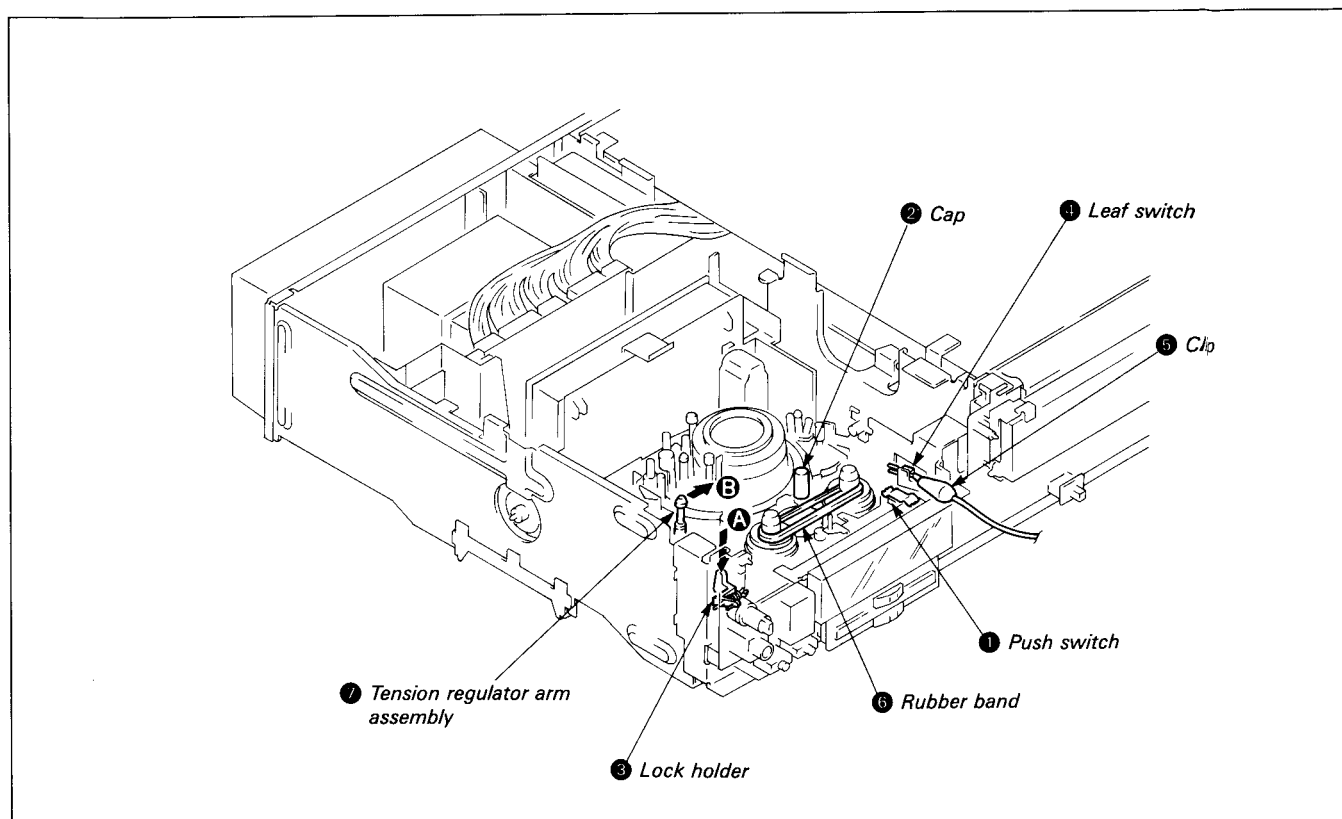

Fig. 7-1.
1. Method to loading (See Fig. 7-1)
2. Putting into Playback State (See Fig. 7-1)
3. Putting into Recording State (See Fig. 7-1)